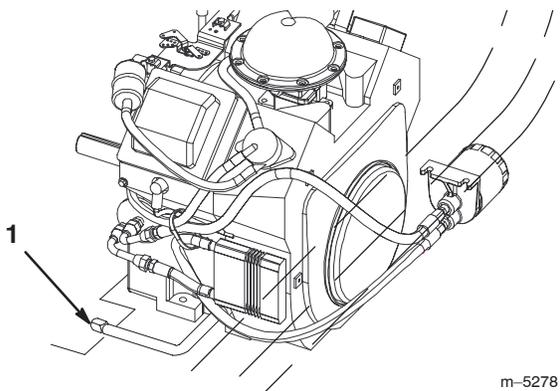

Figure 61
3. Place a pan below the oil drain. Remove the oil drain cap (Fig. 61).